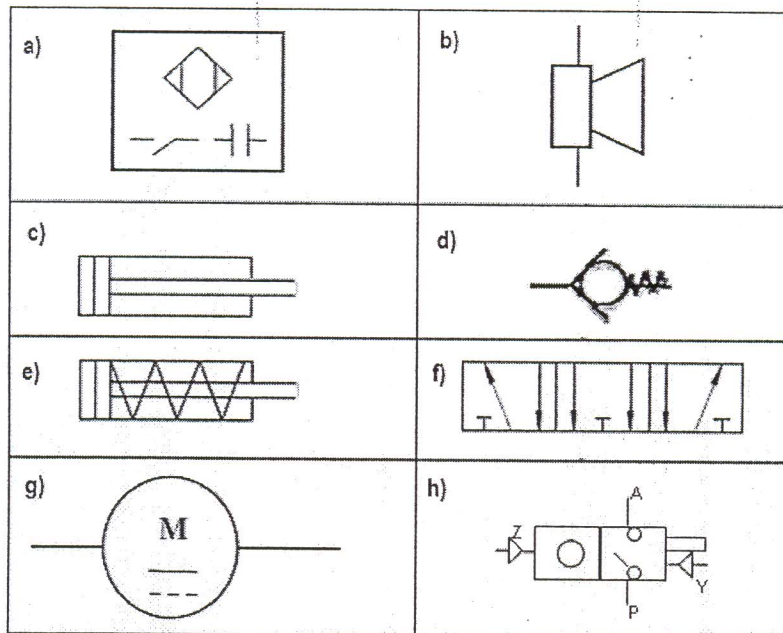

Figure 1: Symbol
- (b) State and draw **three (3)** types of output signal produced by sensor. (3 marks)
- (c) List **five (5)** basic elements of feedback control system (5 marks)
- (d) Limit switch is widely used in industrial control devices and consumer electronic products. State **two (2)** advantages of using limit switch. (2 marks)
- (e) State the name for the following symbol in **Figure 1**. (8 marks)